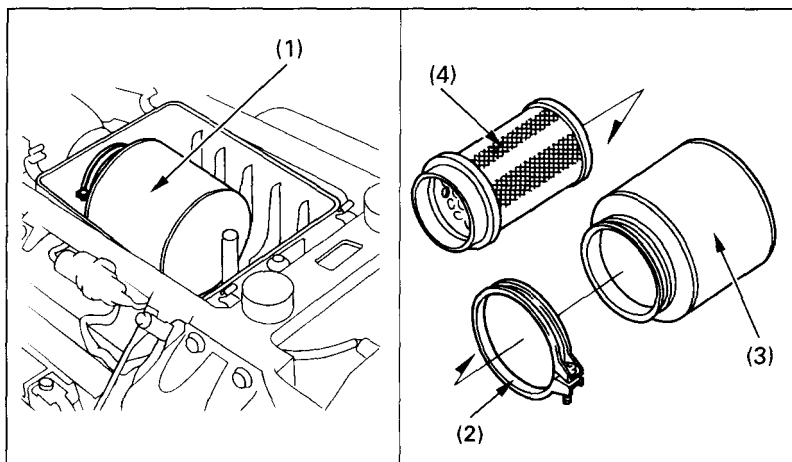

Fig. 4-6
3. Loosen the screw on the clamp (2) (Fig. 4-6) and remove the air cleaner assembly (1) from the case.
4. Unscrew the clamp (2).
5. Remove the air cleaner (3) from the air cleaner body (4).